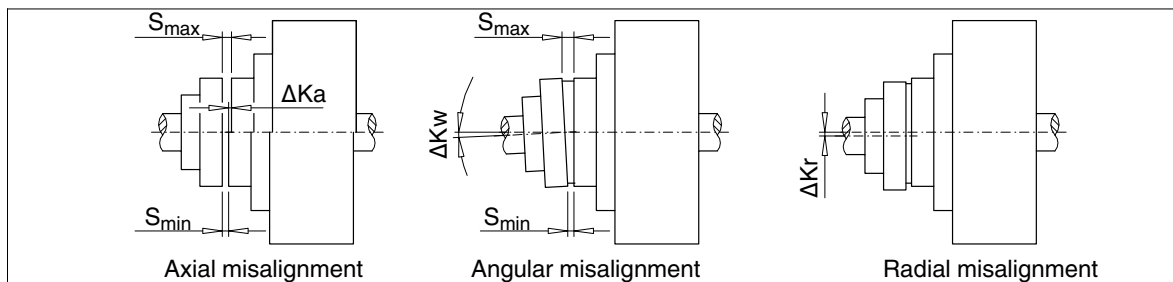

Fig. 10: Possible misalignments
Axial misalignment ΔK_a (Fig. 10) of the coupling parts relative to one another is possible within the "permissible deviation" for dimension "S" (see order-related title page).
The angular misalignment ΔK_w (Fig. 10) can usefully be measured as the difference in the gap dimension "S" ($\Delta S = S_{max} - S_{min}$). For the permissible values for the difference in the gap dimension, refer to item 6.5.4.
For the permissible radial misalignment $\Delta K_{r \text{ perm.}}$ (Fig. 10) which depends upon the operating speed, refer to item 6.5.4.